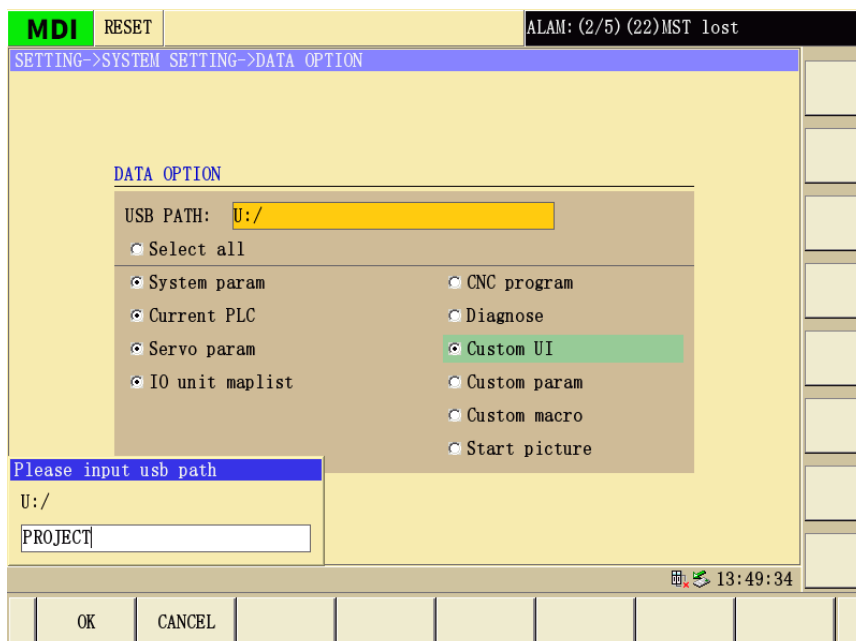

Fig. 1-93
- (4) Click **ONEKEY BACKUP**, then set the folder name (e.g., PROJECT), as illustrated in Figure 1-93.